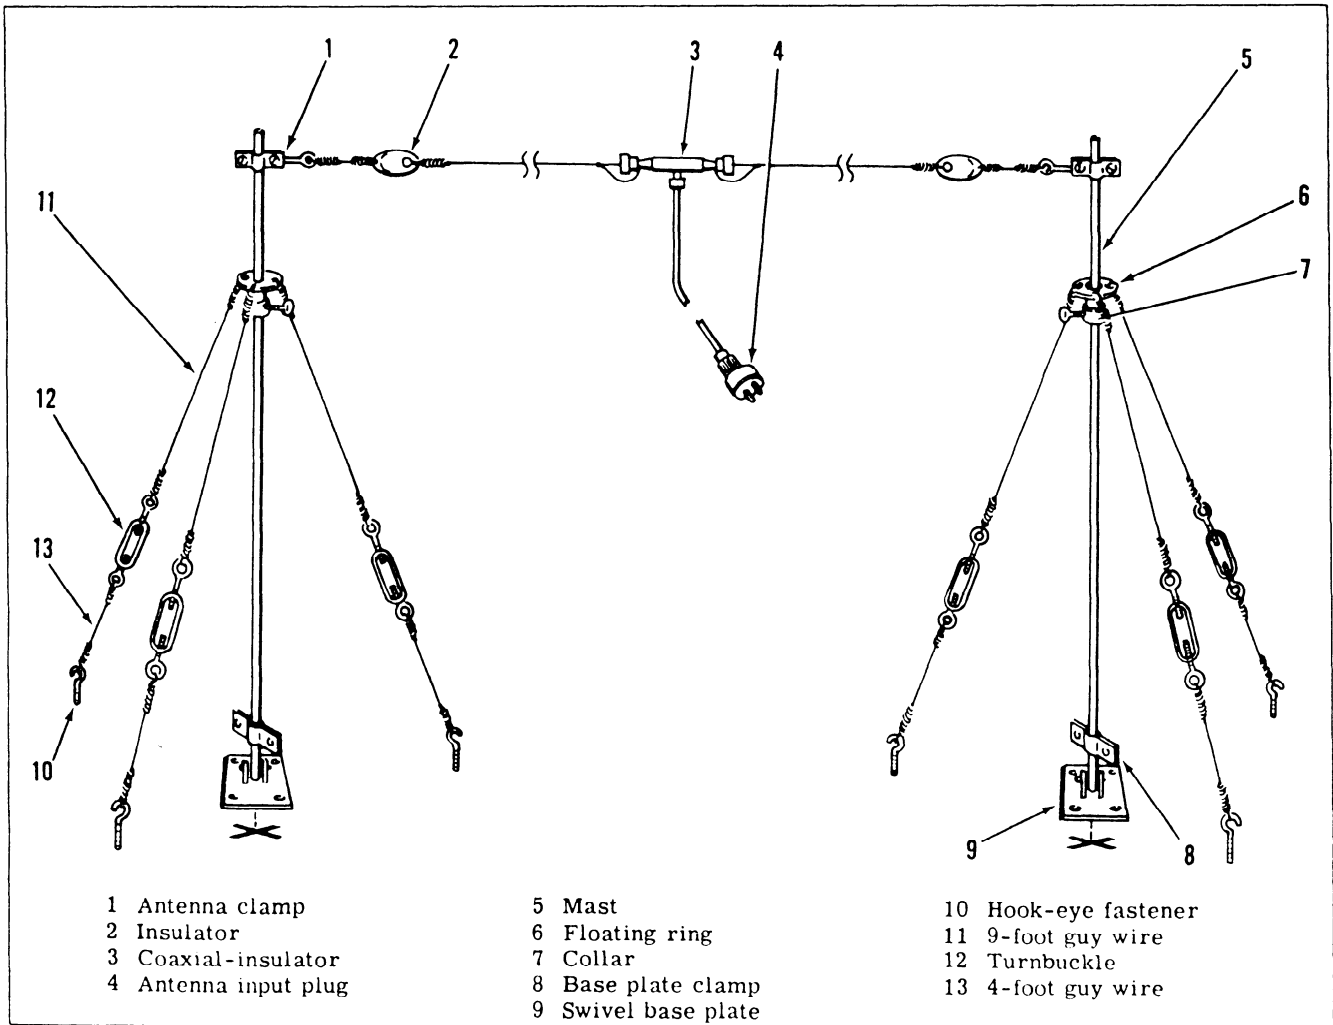

Figure 3-1. Antenna Installation
- a. Measure off required distance between antenna masts and mark each end of measured distance with an X. (See figure 3-1.)
- b. Set one swivel base plate (9) directly on each of the X's marked in step a so that masts swivel at right angles to imaginary line between two base plates. Secure plates with eight mounting screws.
- c. Insert 10 foot mast in base plate clamp (8) and tighten clamp.
- d. Slip collar (7) onto mast and tighten collar 24 inches from unsecured end of mast.
- e. Slip floating ring (6) onto mast.
- f. Slip antenna clamp (1) onto mast and tighten antenna clamp four inches from unsecured end of mast.
- g. Secure three hook-eye fasteners (10) eight feet from base plate and at approximately equal distances from each other. (See figure 3-1.)
- h. Cut three 9-foot lengths of guy wire (11) and secure one 9-foot length to each of three holes in floating ring (6).
- i. Attach one turnbuckle (12) to each of three 9-foot lengths of guy wire at unsecured end.
- j. Cut three 4-foot lengths of guy wire (13).
- k. Attach one 4-foot length of guy wire to free end of each turnbuckle (12).
- l. Attach one end of antenna to antenna clamp (1).
- m. Raise mast (5) to vertical position.
- (10) and tighten turnbuckles (12) as necessary.
Collars (7, figure 3-1)	Place two collars in polyethylene coated paper bag and close with staples.